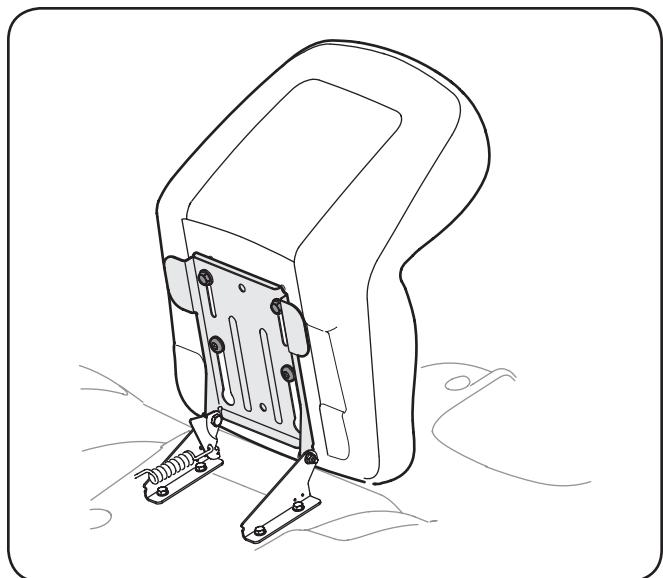
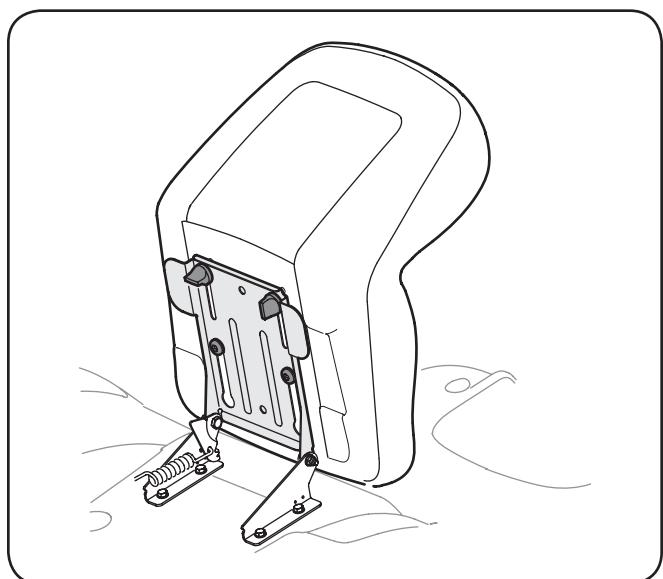
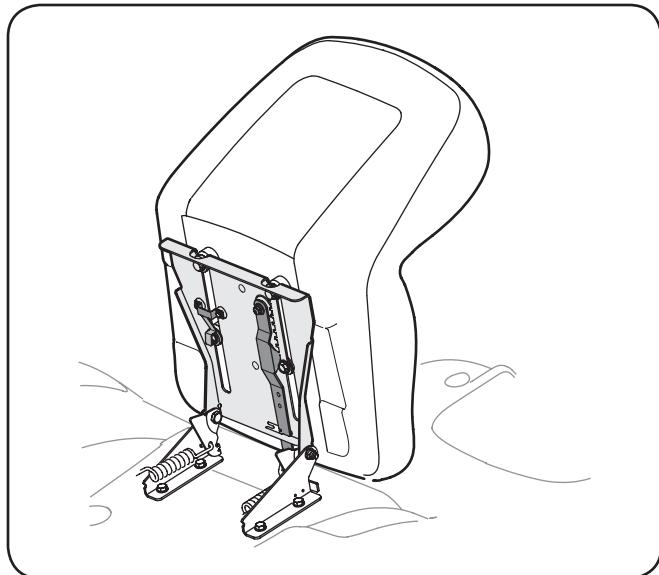

Figure 3-4
Figure 3-5
Figure 3-6
If the seat for your tractor was not attached at the factory, refer to Fig. 3-4, Fig. 3-5, and Fig. 3-6 to identify your tractor's seat style and follow the applicable instructions below to attach it.
1. Position the shoulder screws (*found on the base of the seat*) inside the slot openings in the seat pivot bracket. Fig. 3-4.
3. Select desired position for the seat, and secure with the two hex screws removed earlier. See Fig. 3-4.
1. Position the shoulder screws (*found on the base of the seat*) inside the slot openings in the seat pivot bracket. See Fig. 3-5.
- Select desired position for the seat, and secure with the two knobs removed earlier. See Fig. 3-5.
NOTE: If your seat was shipped mounted backwards on the seat pivot bracket, pull out the tab found on the seat stop and hold it open while sliding the seat off the seat pivot bracket. See Fig. 3-6.
- Slide seat in until front seat spacer engages the seat stop. See Fig. 3-6.